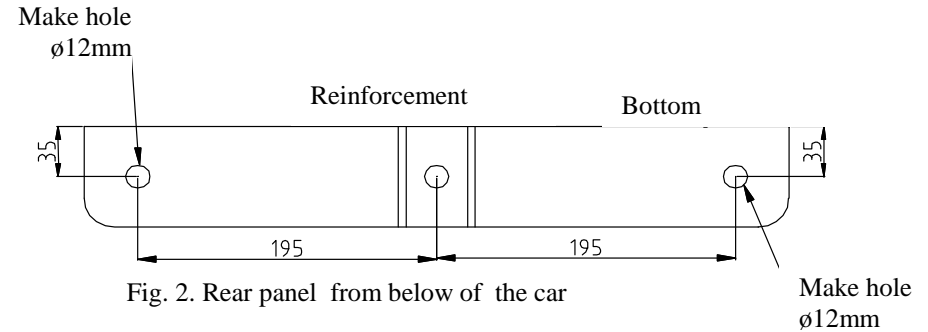

Fig. 2. Rear panel from below of the car
2. Drill two holes  $\varnothing 12$  mm in the rear panel at the bottom of the car (see fig.2).
3. Position the element (pos. 1) to the chassis and fix it through the just made holes and towbars holes (pos. A) using M10x30mm pos. 10 (use also washers  $\varnothing 42$  mm)
4. Drill  $\varnothing 12$ mm through the towbars holes (pos. B) to the inside part of the boot, then position the elements (pos. 5) in the boot and fix it together using M10x30mm (pos. 10)